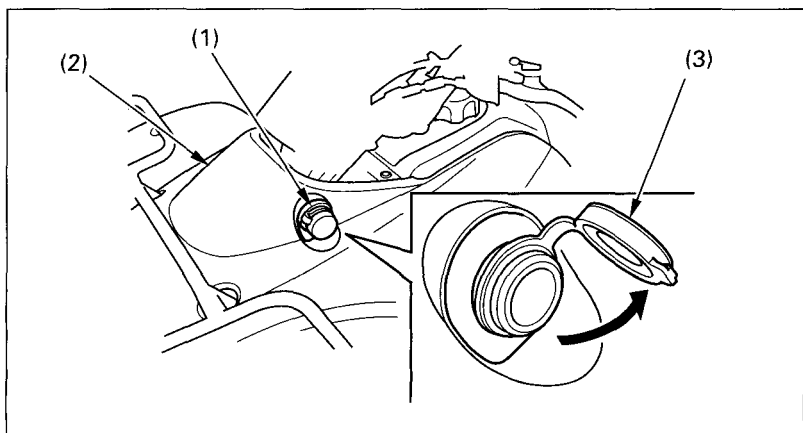

Fig. 2-32 (1) Accessory socket
The accessory socket (1) (Fig. 2-32) is attached to the left side of the front fender (2). You can use the accessory socket to power a trouble light, spotlight, CB radio, or cell phone, etc.